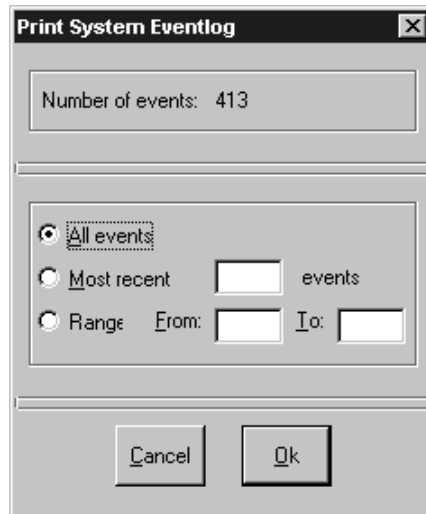

Figure 7-25. Print System Event Log Window
1. From the System Event Log window, select **Options>Print**. The Print System Event Log window opens, as shown in Figure 7-25.